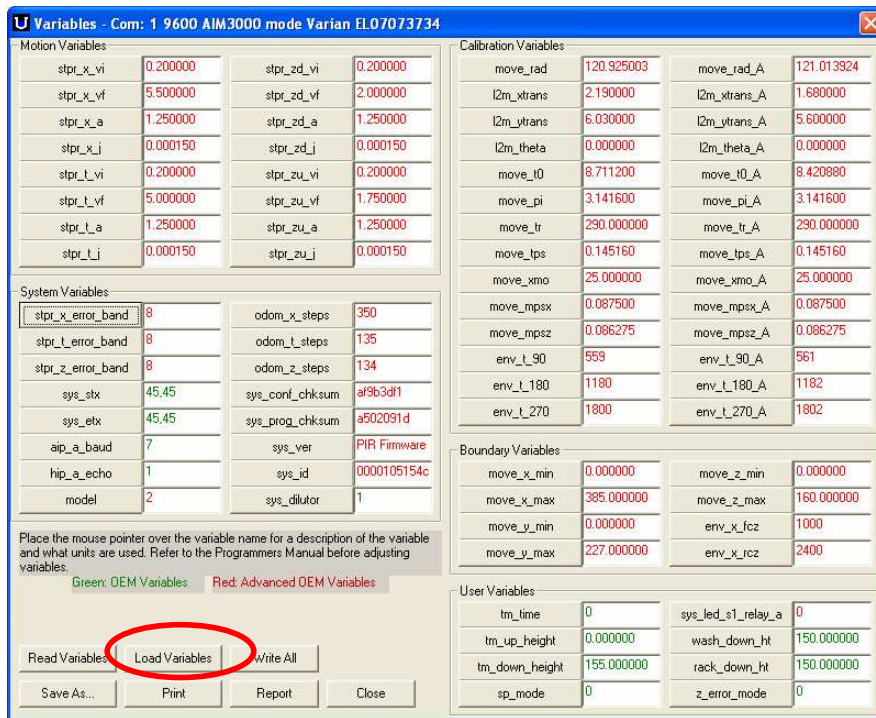
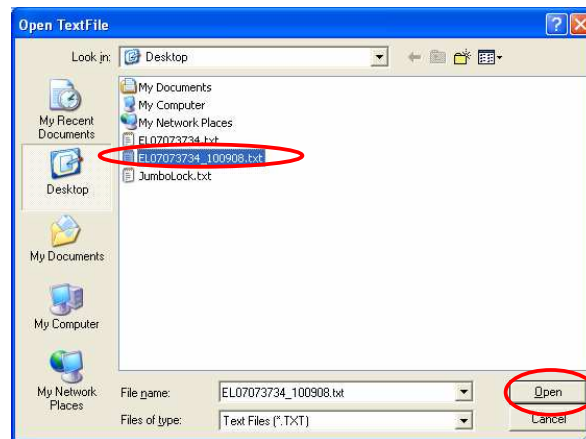
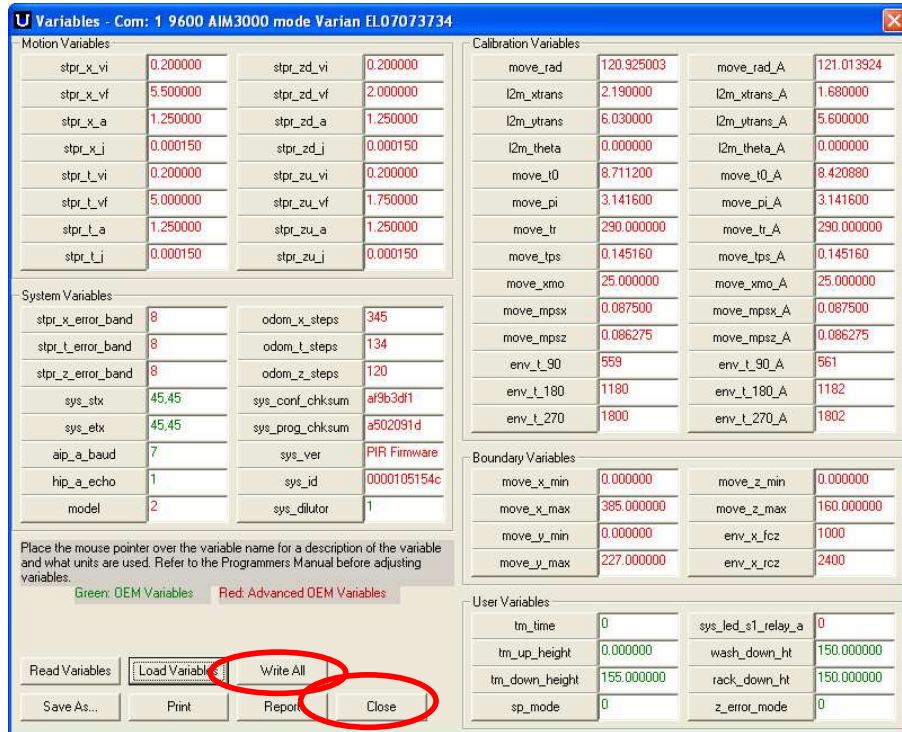

Figure 4: Variables Page
Figure 5: Calibration File Selection
Figure 6: Writing the Calibration to the Firmware
- Click the *Load Variables* button (Figure 4), and then select the txt file that has the calibration coefficients that you want to load up (Figure 5). It is a good idea to make the variables file name one that reflects the serial number of the Fraction Collector. If you have multiple files, then add a date stamp to your file name to ensure that you can distinguish them from each other.
- Once you have selected the desired file to upload and pressed the *Open* (Figure 5). You will then need to select the *Write All* (Figure 6) option to write the variable to the firmware. You can then *close* the Variables page.